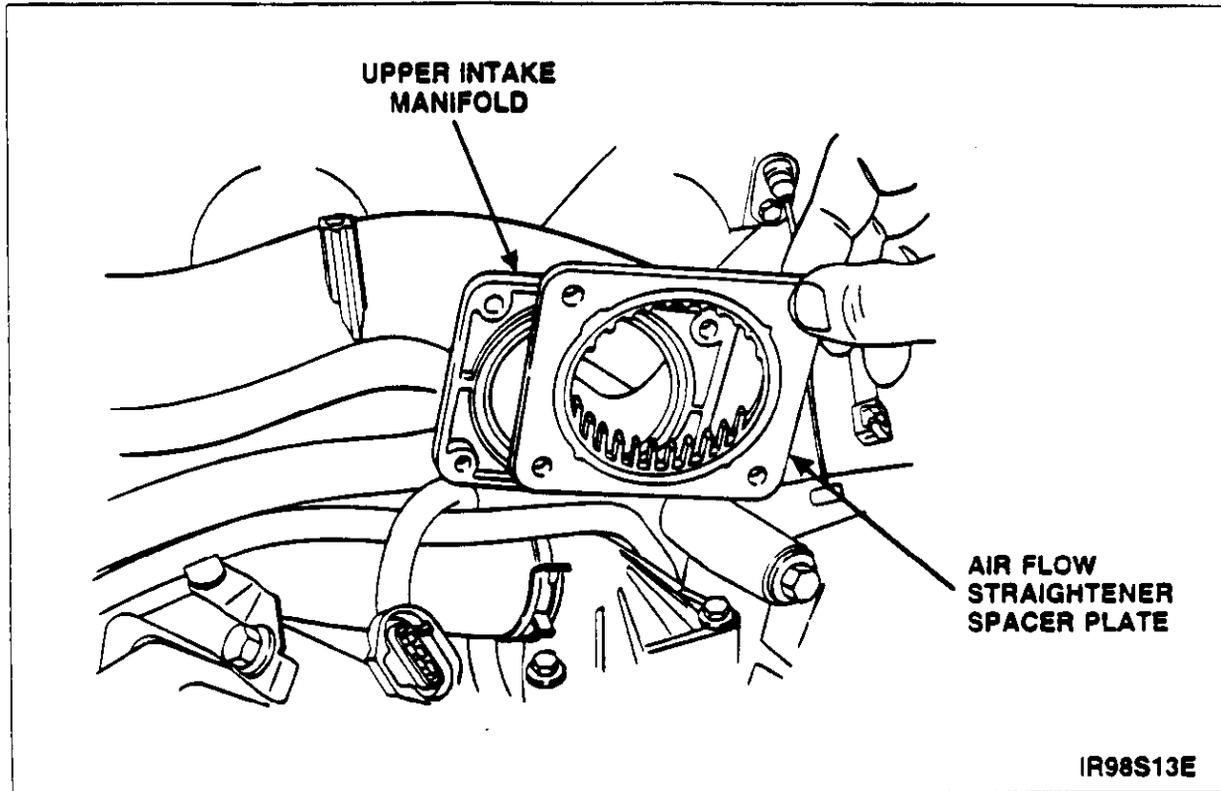

**FIGURE 9**
- Disconnect Throttle Position (TP) sensor electrical connector. Refer to Figure 9.
- Disconnect Idle Air Control (IAC) electrical connector. Refer to Figure 9.
- Unclip christmas tree retaining TP/IAC wiring harness to clean air tube. Refer to Figure 9.
- Disconnect both breather tubes from clean air tube. Refer to Figure 9.
- Remove clean air tube. See Figure 9.